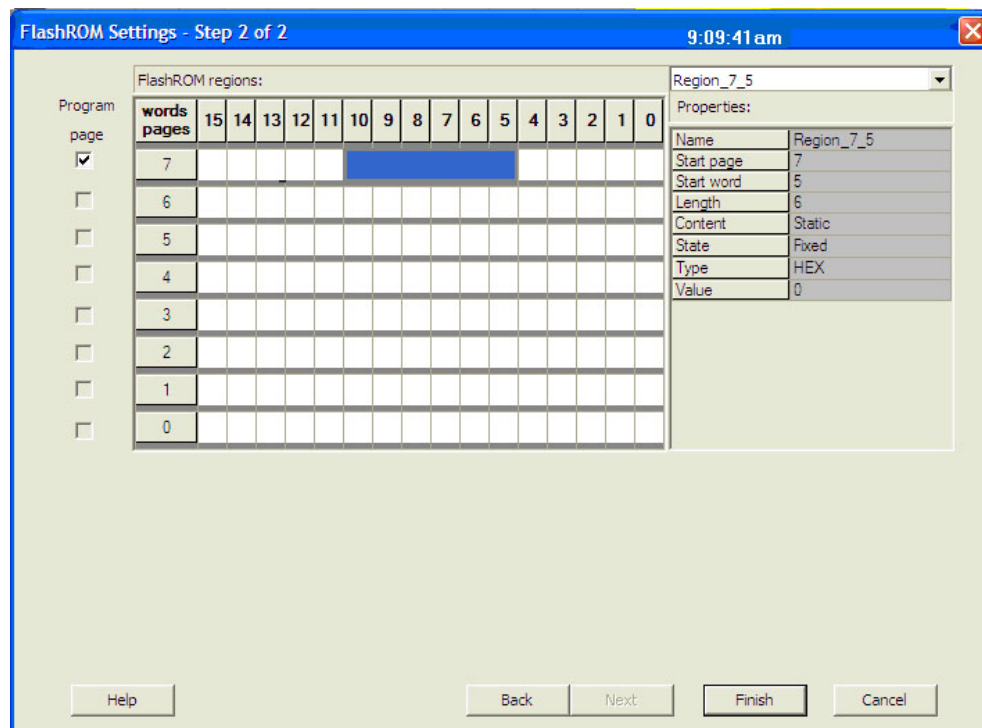

Figure 11-13 • FlashROM Configuration Settings for Low Power Flash Devices
- Choose the desired settings for the FlashROM configurations to be programmed (Figure 11-13). Click **Finish** to generate the STAPL programming file for the design.